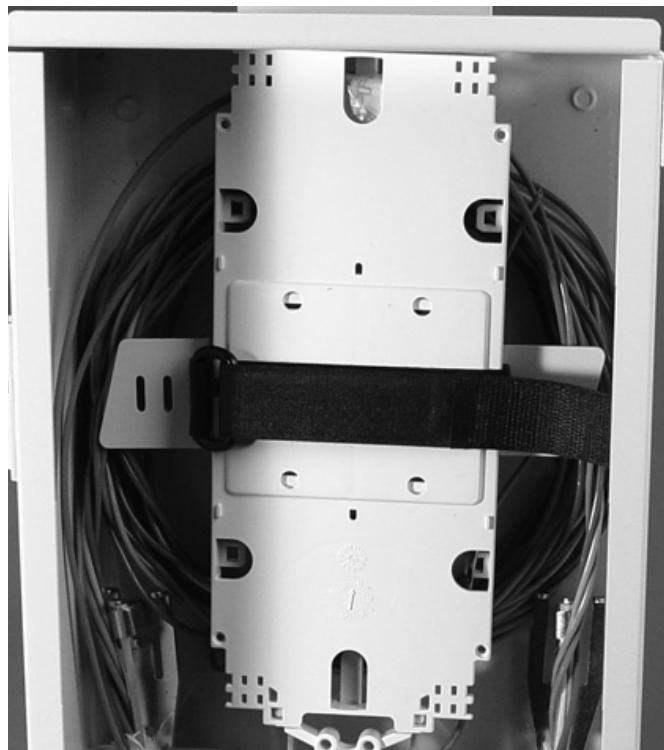

Figure 18
4. Lift the tray(s) against the storage area and secure with the hook and loop fastener strap. (Figure 18)